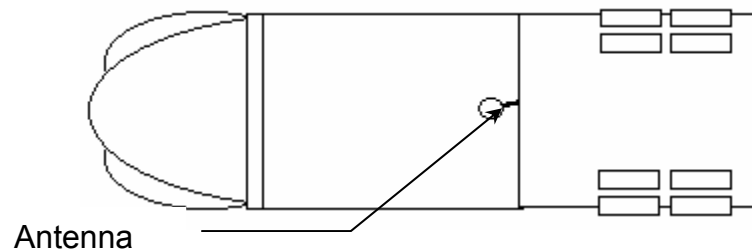

Figure 10: Possible Location of GPS/Cellular Antenna
- 1 Determine the ideal location of the Antenna (illustrated in Figure 9, below). An ideal location is on the top of the cab or sleeper (illustrated in Figure 10, below).